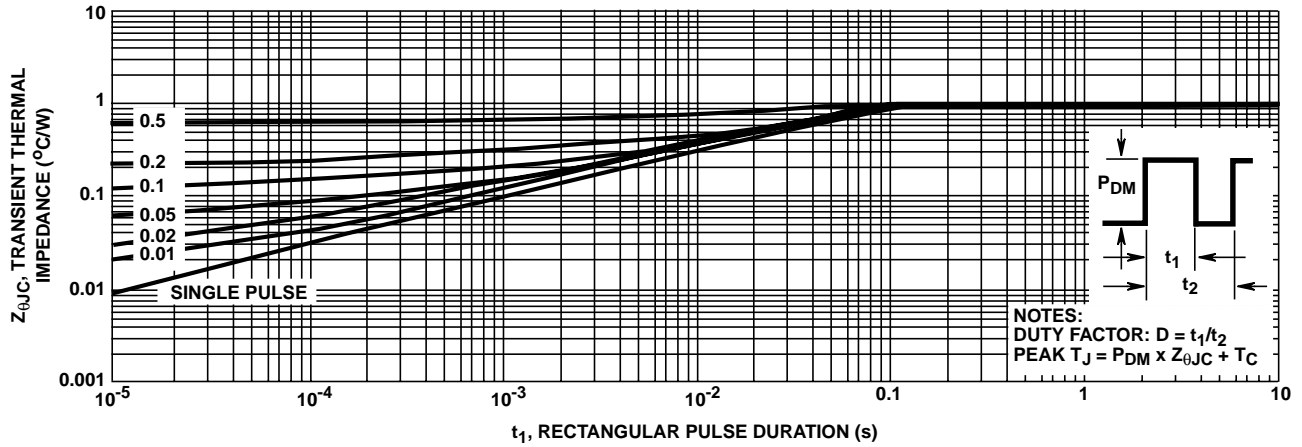

FIGURE 3. MAXIMUM TRANSIENT THERMAL IMPEDANCE
- Repetitive rating: pulse width limited by Max junction temperature. See Transient Thermal Impedance curve (Figure 3).